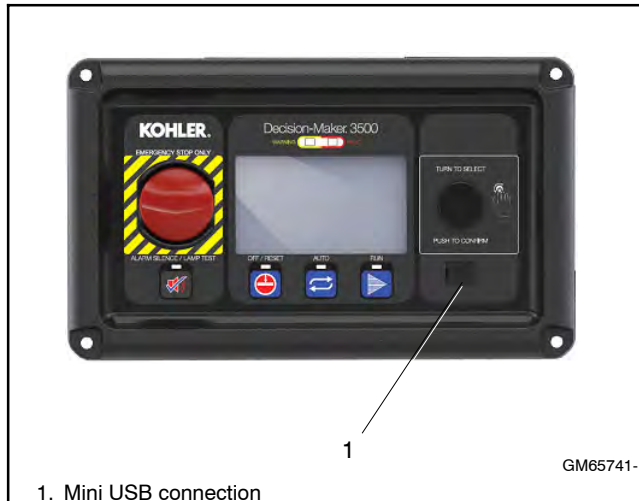

Figure 8-4 Decision-Maker® 3500 Controller
The controller service replacement kit is available to replace a non-functional controller. Use the following procedure to install the replacement controller. See Figure 8-4 for controller identification. For features and operation of the controller, see the operation manual.
- a. Connect the PC to the Decision-Maker® 3500 controller using a USB cable. See Figure 8-4 for the location of the USB connection port.